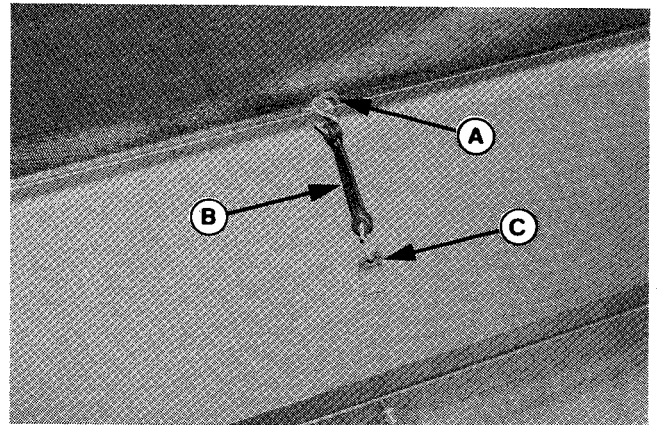

Figure 15.
- i. Install the six inch rubber strap (A, figure 15) at the back of the box. Hook the strap over the metal loop (B) on the frame rod, which protrudes through the cover. Close the hook with a pair of pliers. Hook the other end of the strap over the door lock (C) on the box.